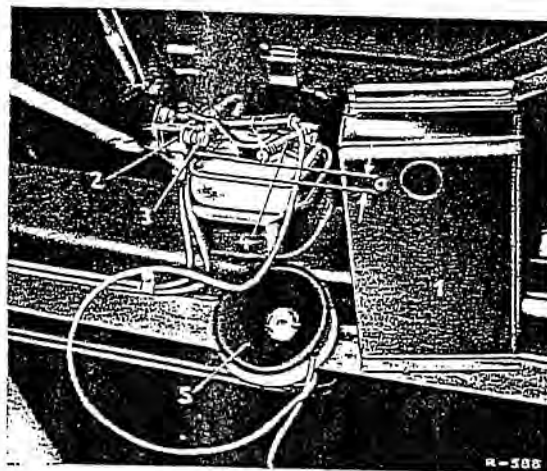

Fig. 25-10/28
The electrical switch contact at the rear axle is adjusted with the aid of a testing light. After removing the cover plate (1) in the trunk compartment, a testing light (5) with an adequate length of cable is connected to the positive terminal of the battery and to the switch connection marked with a + (Fig. 25-10/28).